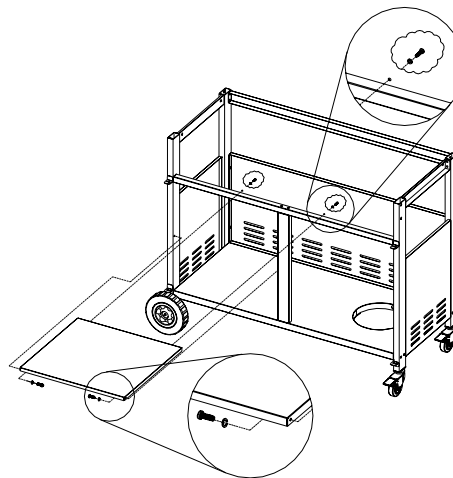

Figure 8
4. Attach the cart clapboard to the rear panel and front cart support using (4) $\frac{5}{32}$ x $\frac{2}{5}$ " Phillips head screws and (4) $\frac{5}{32}$ " lock washers. (Fig.8)